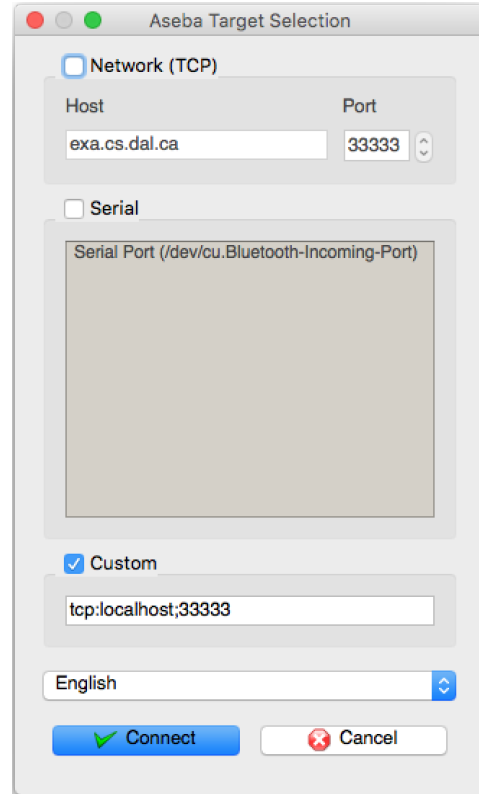

Figure 24: Select *Custom*.
1. Run Aseba Studio (or Thymio II Studio). When you see the connection dialog box (see Figure 24), check the **Custom** option in the dialog. Enter the connection information: